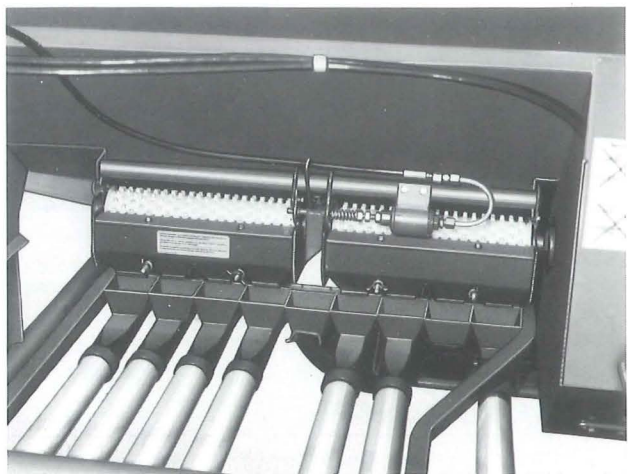

Fig. 19
5.5 Hydraulic sectional boom spread control (Fig. 19)